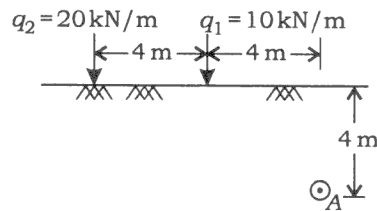

Fig. 5(a)
5. (a) Fig. 5(a) below shows two line loads on the ground surface. Determine the increase of stress at point A :